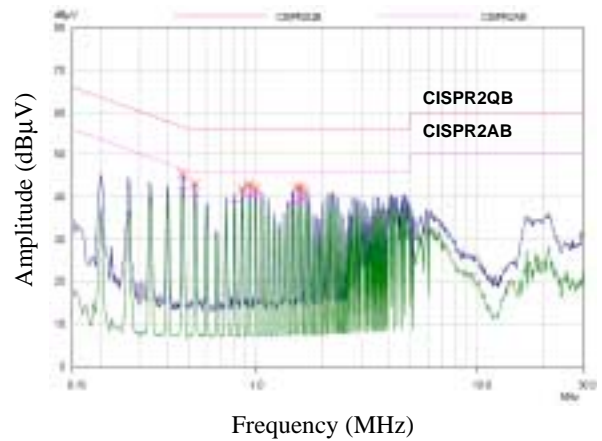

Figure 11. KA5-series FPS Full Range EMI scan(67KHz, no Frequency Modulation) with DVD Player SET
7. Frequency Modulation : EMI reduction can be accomplished by modulating the switching frequency of a switched power supply. Frequency modulation can reduce EMI by spreading the energy over a wider frequency range than the band width measured by the EMI test equipment. The amount of EMI reduction is directly related to the depth of the reference frequency. As can be seen in Figure 11, the frequency changes from 65KHz to 69KHz in 4mS for the FSDM0265RN. Frequency modulation allows the use of a cost effective inductor instead of an AC input mode choke to satisfy the requirements of world wide EMI limits.